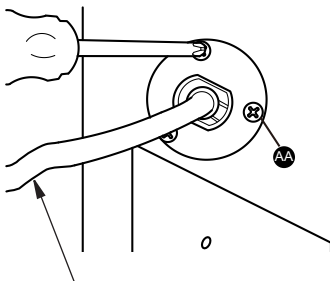

Figure 12 - Installing Power Cord
2. Attach the power cord to the fireplace with three M4.2X8 screws (AA), (see Figure 12).